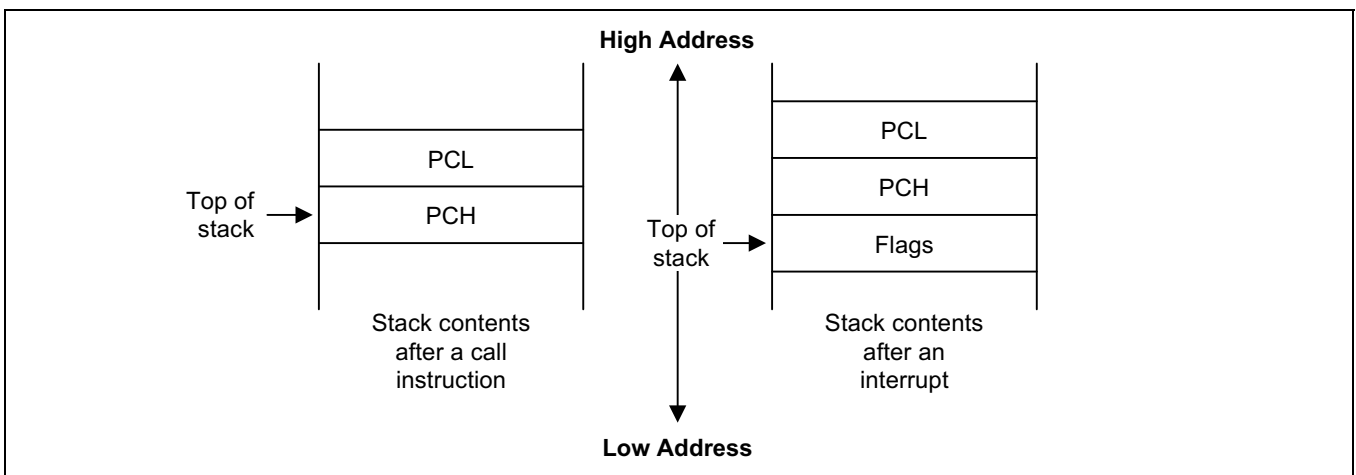

Figure 2-16. Stack Operations
Return addresses for procedure calls, interrupts, and data are stored on the stack. The contents of the PC are saved to stack by a CALL instruction and restored by the RET instruction. When an interrupt occurs, the contents of the PC and the FLAGS register are pushed to the stack. The IRET instruction then pops these values back to their original locations. The stack address value is always decreased by one before a push operation and increased by one *after* a pop operation. The stack pointer (SP) always points to the stack frame stored on the top of the stack, as shown in Figure 2-16.